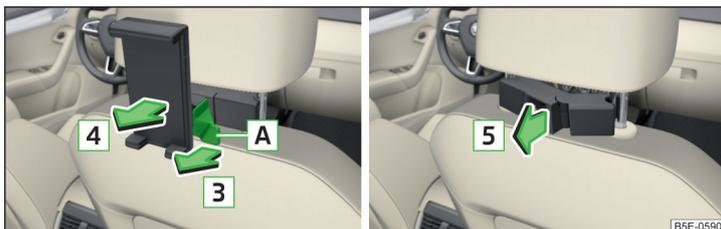

Fig. 103 Removing: Holder / adapter
- ▶ **To remove**, pull on the securing tab **A** in direction of arrow **3** and take the holder out of the adapter in the direction of arrow **4** » Fig. 103.